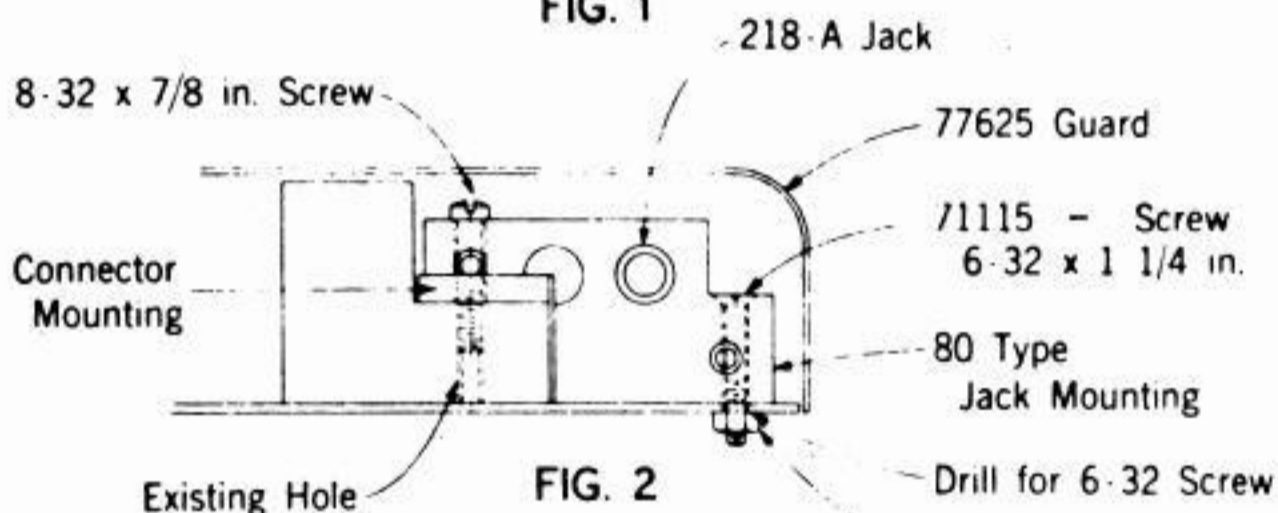

FIG. 2
2.04 The foregoing parts should be installed on the mounting plate as shown in Figures 2 and 3 and as described in the following.
- (e) Mount the modified jack mounting on the rear right of the mounting plate as viewed from the front and secure it in place by means of the 8-32 x 7/8 inch machine screw and the TP 71115 screw and TP 55246 nut in the screw holes made available under Paragraphs (c) and (d), as shown in Figure 2.